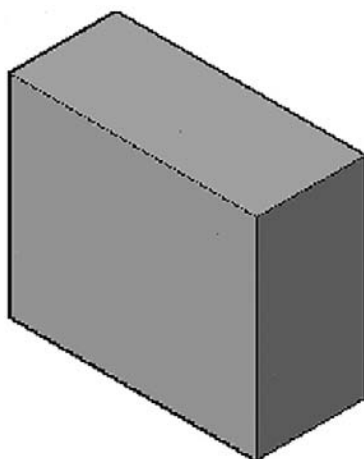

FIGURE 22.1
- Step 4.** Drag your mouse up (or enter a value) and the shape is automatically extruded into a cube, as seen in Figure 22.1.